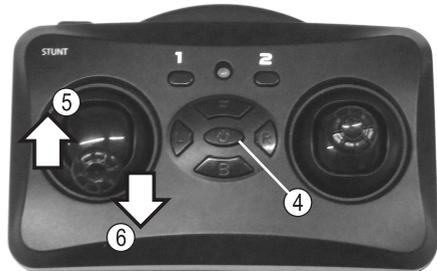

Figure 12
**Step 4:** Now switch on the transmitter by briefly pressing the on/off switch (see Figure 12, no. 4).
**Step 5:** Move the joystick for the pitch and yaw function to the highest position (full throttle) (see Figure 12, no. 5). The transmitter emits a short beep again.
**Step 6:** Move the joystick for the pitch and yaw function to the lowest position (motor off position) (see Figure 12, no. 6). The transmitter emits a long beep and the LED indicator light on the transmitter glows steadily.